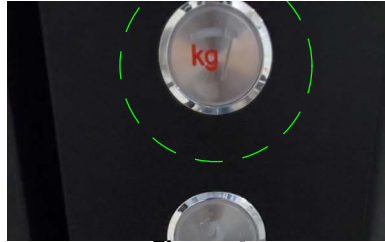

Figure 4
The overload sensor ensures that the lift can not be started when overloaded. If the lift is overloaded the button shown in figure 4 will light up, an alarm will sound and the car will not start.
- 3 Insert the manual lowering tool (shown in Figure 4) into the hole in the glass/acrylic.